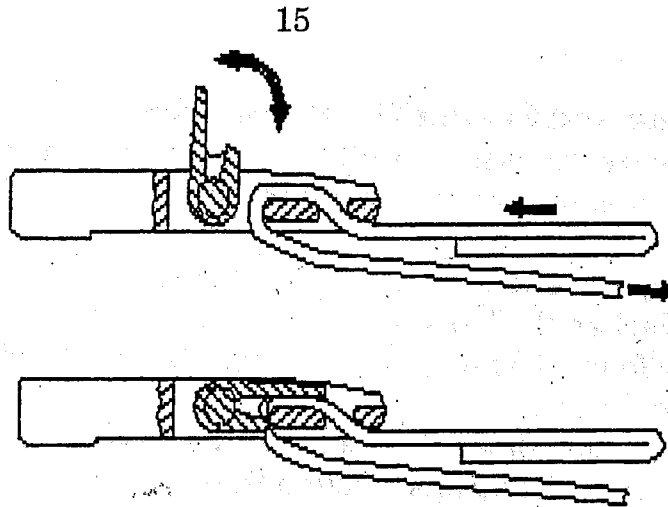

Fig 6
- The top four buckles are cam buckles (see fig 6) which are used as preset buckles